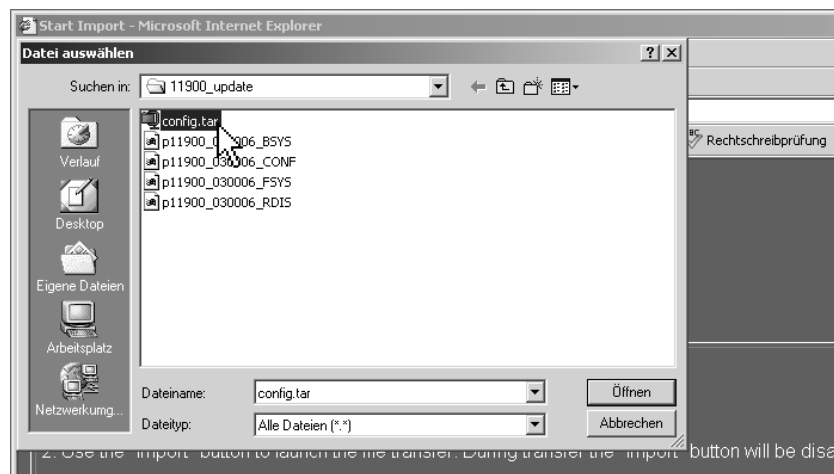

Fig. 8-20: The import file selection dialog box (config.tar.gz)
4. Choose the folder (e. g.: C:\11900_update) with the user settings data file and click the file **config.tar.gz** (see Fig. 8-20).